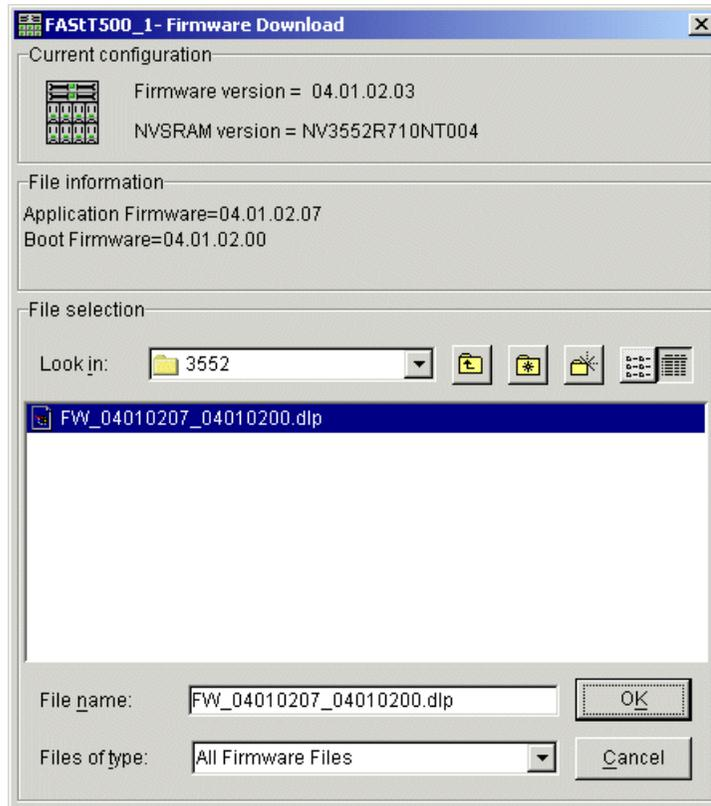

Figure 5-15 Firmware Download window
2. The Firmware Download window is displayed. Information about the current firmware and NVSRAM levels installed on your storage server is available, as shown in Figure 5-15: